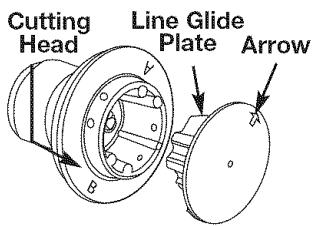

Fig. 11
- Reinstall line glide plate (Fig. 11). Align arrow with: